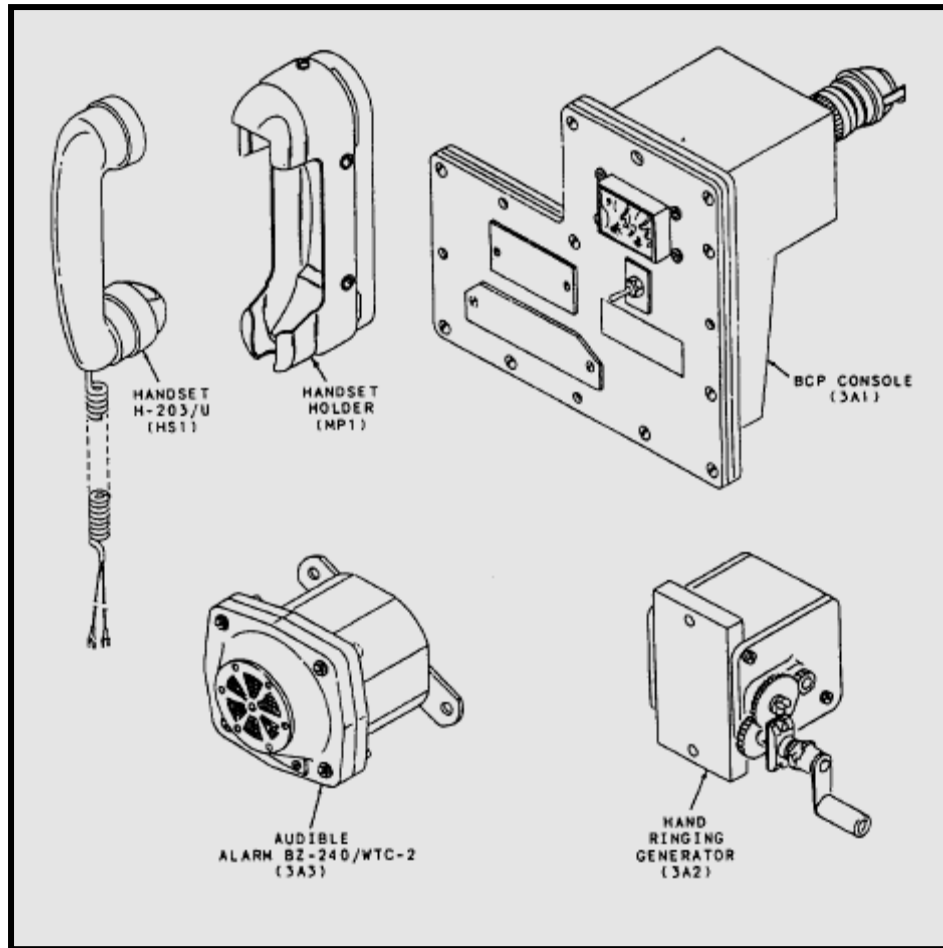

Figure 5-27.—The TA-975/WTC-2(V) sound-powered telephone set, unit 3.
**UNIT 3.**— Unit 3 (fig. 5-27) is a console-mounted terminal station consisting of four separate components: BCP console 3A1, hand-ringing generator 3A2, audible alarm BZ-240/WTC-2(V), and handset HS1. BCP console 3A1 and hand ringing generator 3A2 serve the same purpose as the cover assembly in unit 1. The audible alarm component houses an electrical horn for remote audible signaling.